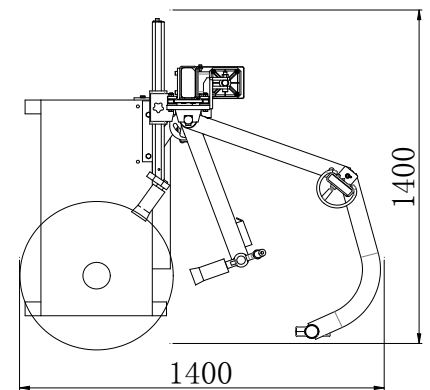

Fig 6
**Fig 6** shows the minimum distance (cm) from walls after assembly this auxiliary device. Please choose the right place to install it.